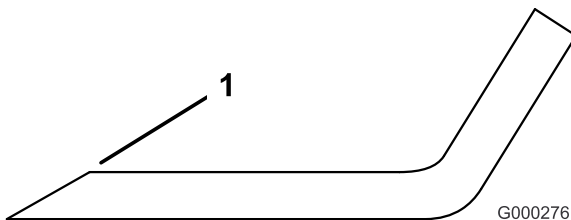

Figure 99
1. Use a file to sharpen the cutting edge at both ends of the blade (Figure 99). Maintain the original angle. The blade retains its balance if the same amount of material is removed from both cutting edges.